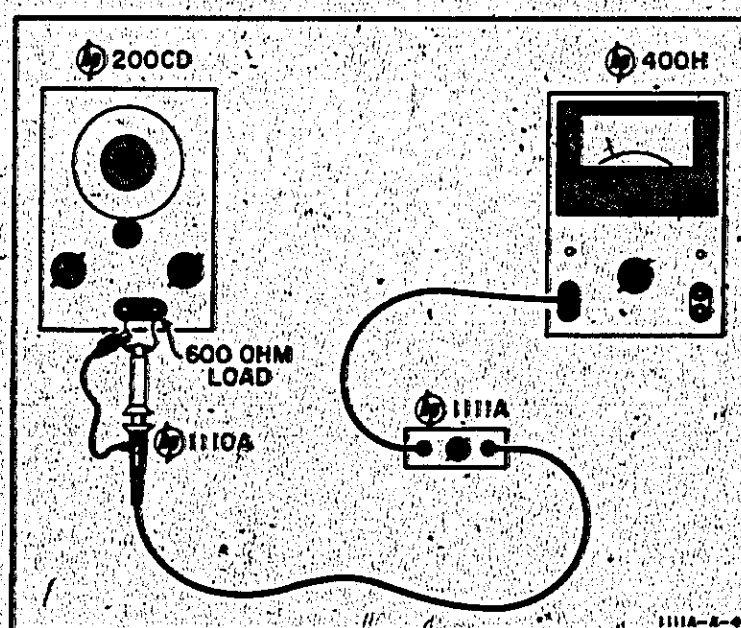

Figure 5-2. Oscillator-Voltmeter Test Setup
- a. Refer to Table 5-1 and Figure 5-2 and connect test equipment. Items required are 2, 3, 4 and 9.
a. Refer to Table 5-1 and Figure 5-2 and connect specified equipment, items 2, 3, 4 and 9.